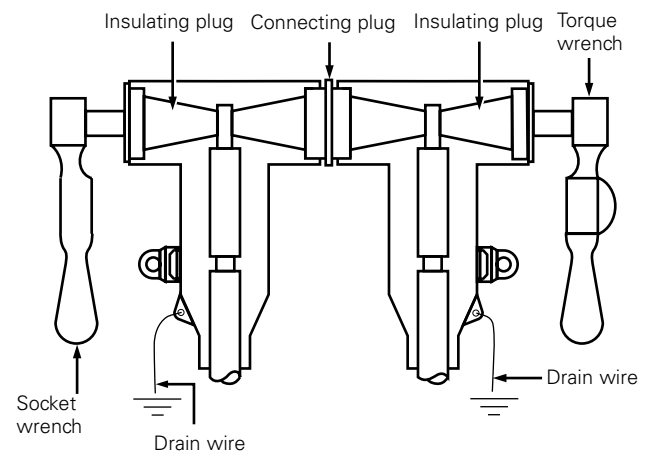

Figure 31. Line illustration of second insulating plug installation.
- Secure the first insulating plug using a 1" wrench. Using a 1" socket on a torque wrench tighten the second insulating plug to 55 ft-lbs. Refer to Figure 31.